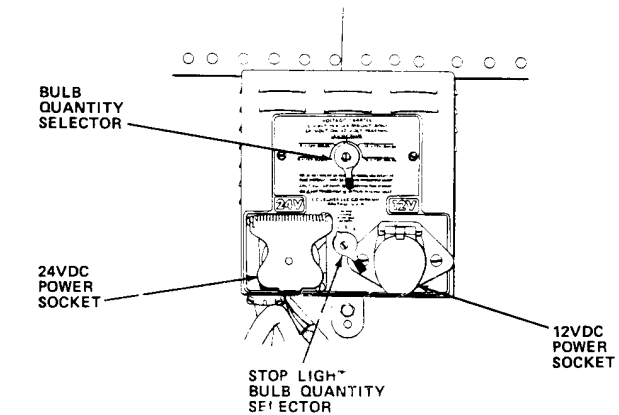

Figure 3. Unit Receptacles and Power Switch
Back up tractor so that coupler jaws (9) on fifth wheel are directly centered and in line with van kingpin (3). See Figure 3.
Connect electrical cable to electrical receptacle on van. See Figure 3.